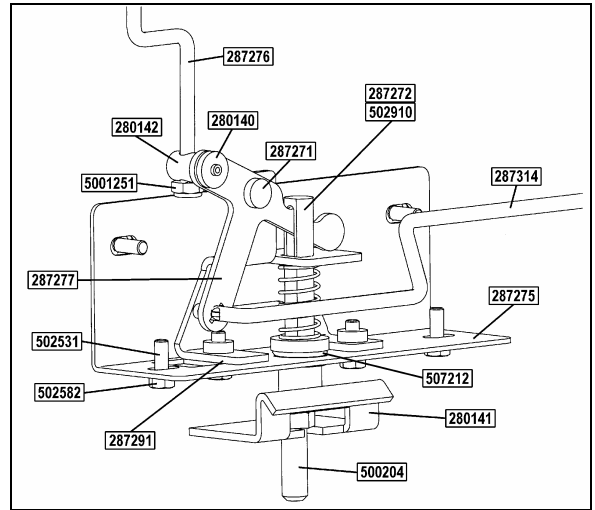

FIGURE 4 : LOWER LATCH
5. Insert shoulder rivet (280142) into pivot hole (287277), install retainer washer (280140) then secure assembly by hammering tip of rivet (refer to figure 4).